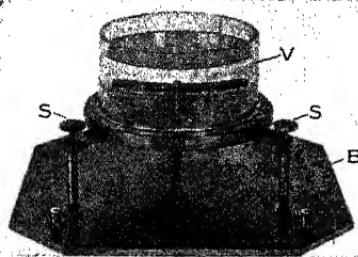

Fig. 45.—Compass-card balancing stand.
A card balancing stand is seen in Fig. 45. It has a base *B* and a glass vessel *V*, with three screws *S* for leveling. In the vessel is a jeweled pivot post on which compass magnetic units may be placed for balancing.
*Balancing the Magnetic Unit.*—After making the magnets stronger, the magnetic unit is to be balanced in liquid. Put it on the pivot post of the balance stand (Fig. 45). If the card is not in balance within the limit given in Table 7, put a small amount of solder on the high ends of the magnets. Do this with a soldering iron which is no hotter than necessary. Be certain